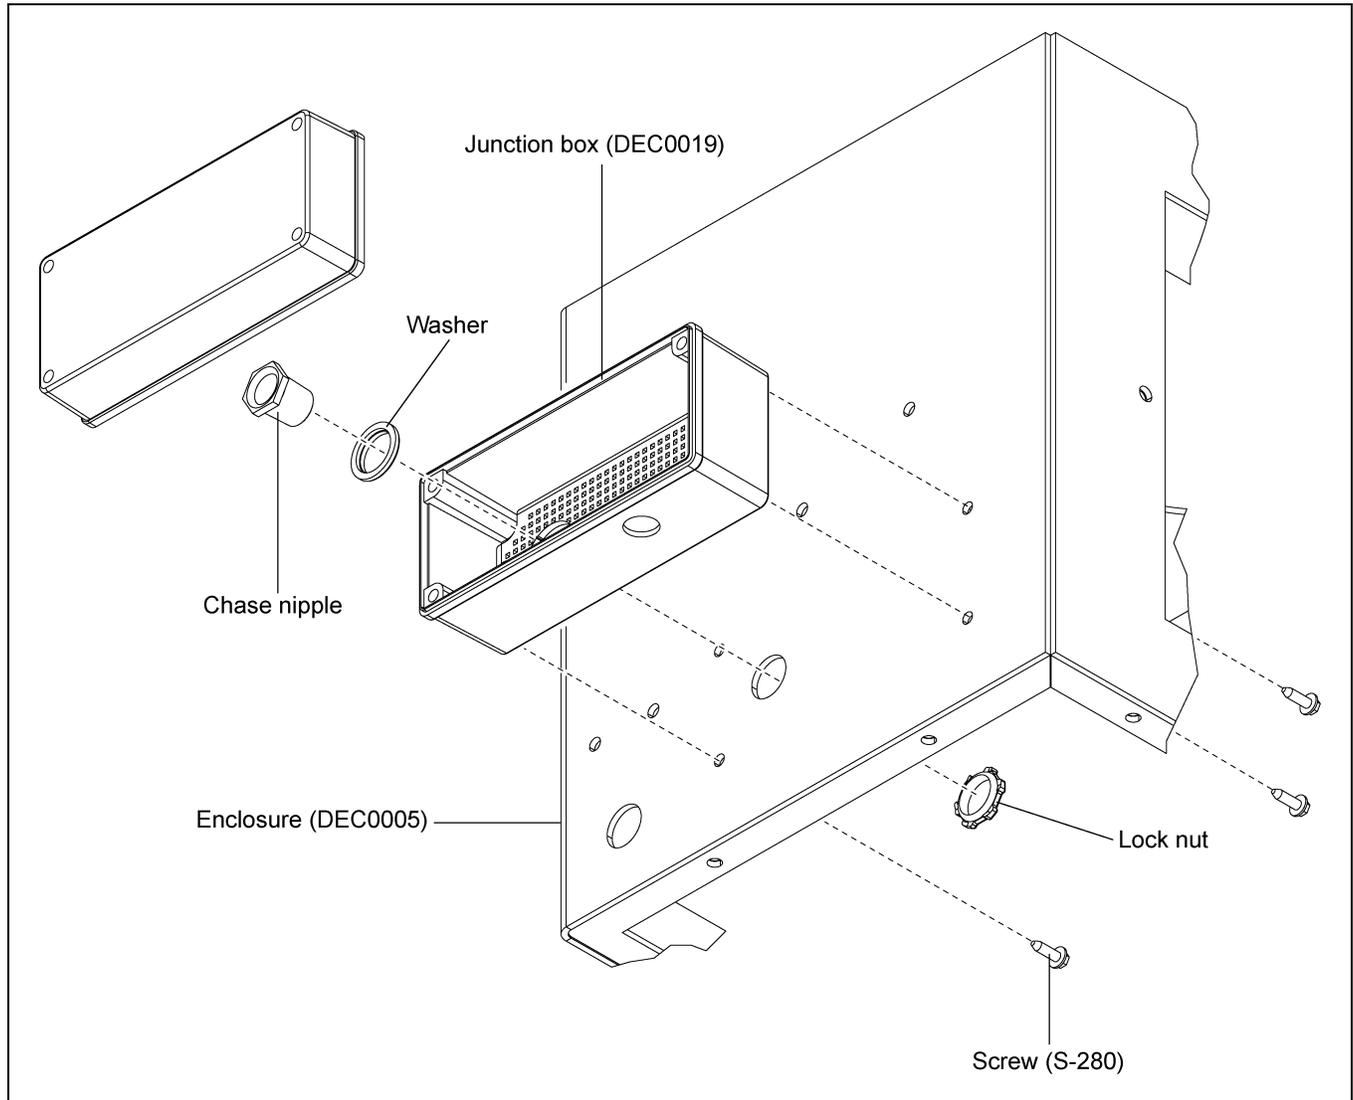

**Figure 3B** *Electronic Distributor Enclosure*
Install the enclosure (DEC0005) to the distributor using four (4) 3/8 bolts (S-7469) and nylock nuts (S-7383). (See Figure 3B.)